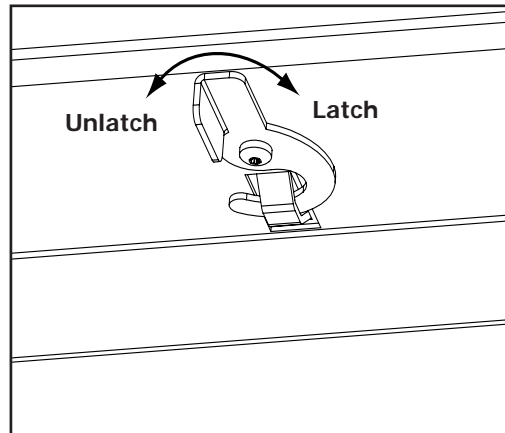
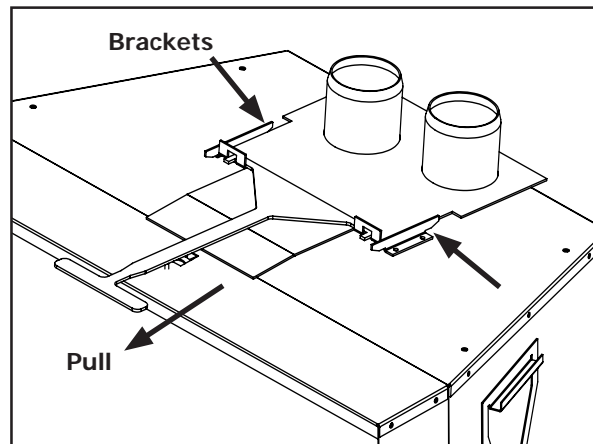

Figure 29: Vent Collar Plate Latch.
Figure 30: Vent Collar Plate Tool.
10. If the fireplace opening is lower than 24" (610 mm), remove the vent collar plate from the top of the insert by unlatching the hook located on the center top of the stove above the door opening (see Figure 29). Slide the collar plate backwards. Properly secure the vent collar plate to the flexible vent pipe liner(s) previously installed in the chimney. Be careful not to over-stretch the liner(s).
11. Apply a bead of stove cement sealant to the top section of the Ø3" (76mm) exhaust vent collar plate. Slide the Ø3" (76mm) flex vent over the flue collar and secure with three (3) sheet metal screws evenly spaced.
12. Place a bead of high temperature silicone on the intake collar of the fireplace, slide the Ø3" (76mm) flex intake liner over the collar, secure the flex liner with three (3) sheet metal screws evenly spaced.
14. As you push the unit into its final position in the fireplace, if the vent collar plate was removed, reinstall it on the stove by pulling it into the brackets on top using the supplied tool and latch it back in place (shown in Figure 30).